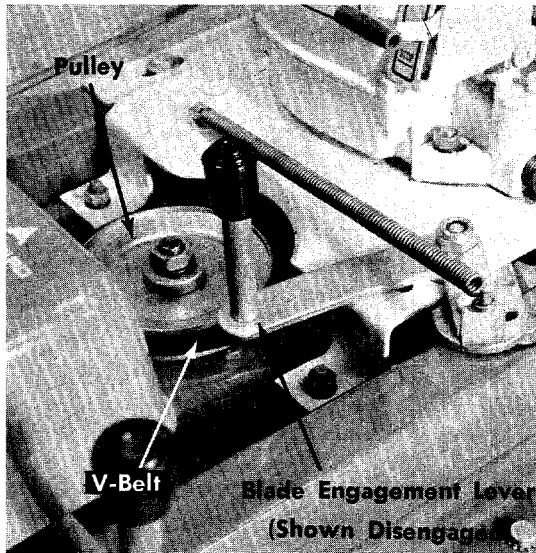
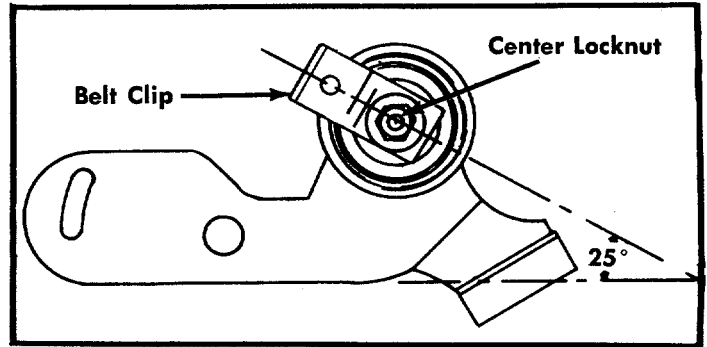

FIGURE 20 BLADE ENGAGEMENT LEVER
FIGURE 21. BELT IDLER
Step 5. Remove the belt from the transmission idler. See figure 20.
Step 5. Place the blade engagement lever in the engaged position (See figure 20.) and loosen the center locknut on the blade idler. See figure 21.
Use a 1/2" open end wrench. When installing the new belt be sure the belt clip is in the same position as shown in figure 21.